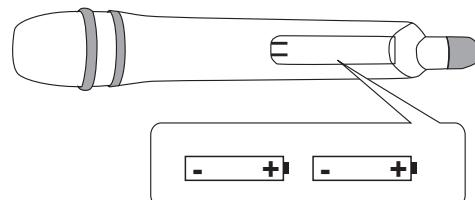

FIGURE 6
2. Take off the transmitter battery cover to expose the battery terminals, as shown in Figure 6.
3. Insert two 1.5VAA alkaline batteries into the battery compartment as shown in Figure 6. Two fresh 1.5V alkaline batteries should typically provide 8 hours of performance time. Two fully charged 1.2V Nicad batteries (1800 mA) should provide 12 hours of performance time. When the LOW BATTERY light on the transmitter turns on, you have 20 minutes of less of useful battery life remaining. Change the battery at you first opportunity.